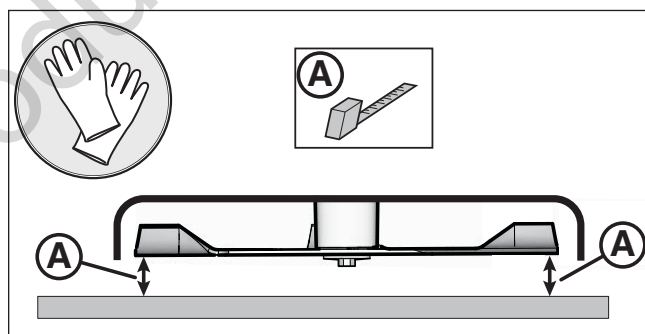

Figure 45. Checking The Blade Height Measurement
7. **For your safety, DO NOT handle mower blades with bare hands.** Position the outside mower blades so that they face front-to-back (Figure 45).